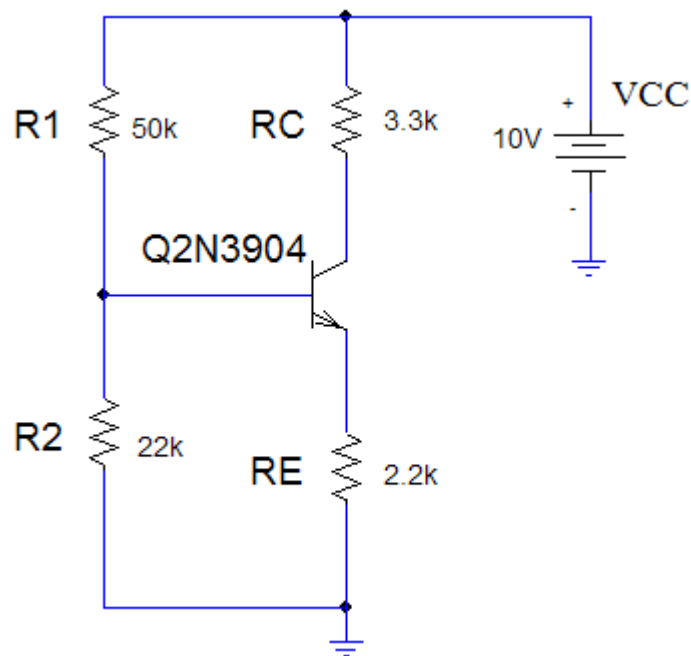

Fig.3. Biasing of BJT
- 2.1. Draw the circuit of Fig. 3 (Self Bias Circuit). By choosing **Setup analysis**, mark **Bias Point Detail** and **Temperature**. Set Temperature to 27⁰ C.
- 2.7. Now, for circuit in Fig. 3, remove RE and short Emitter to ground (Fixed Bias Circuit). Repeat steps 2 to 6. R1 will needed to be set around 228KΩ to achieve V_{CE} = 0.5 V_{CC}.